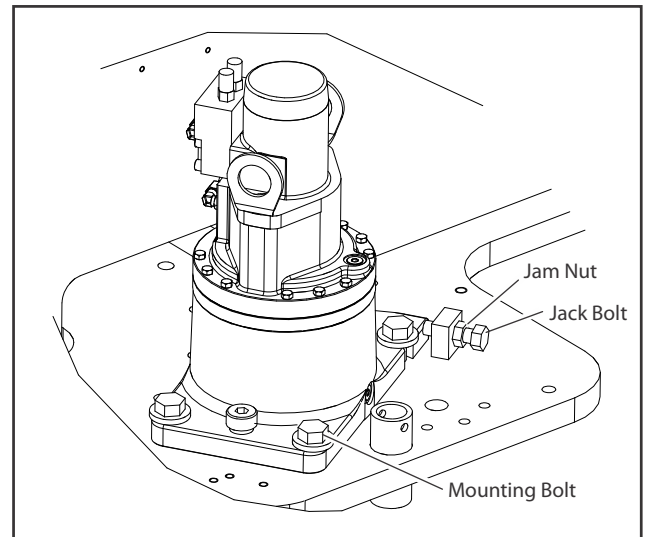

Figure 3-45. Swing Drive Jam Nut and Mounting Bolt
12. Reinstall Drain Plug if not already installed (1P from Fig. 3-45). Torque to 23 - 24 ft-lb (31 - 32 Nm).